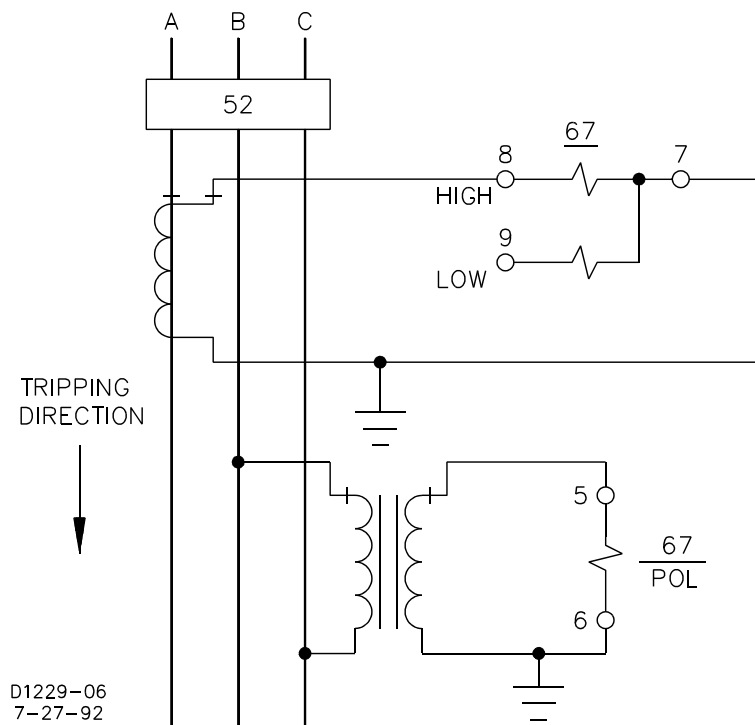

Figure 4-8. Single-Phase AC Connections
- Typical ac connections for single-phase relays are shown in Figure 4-8.